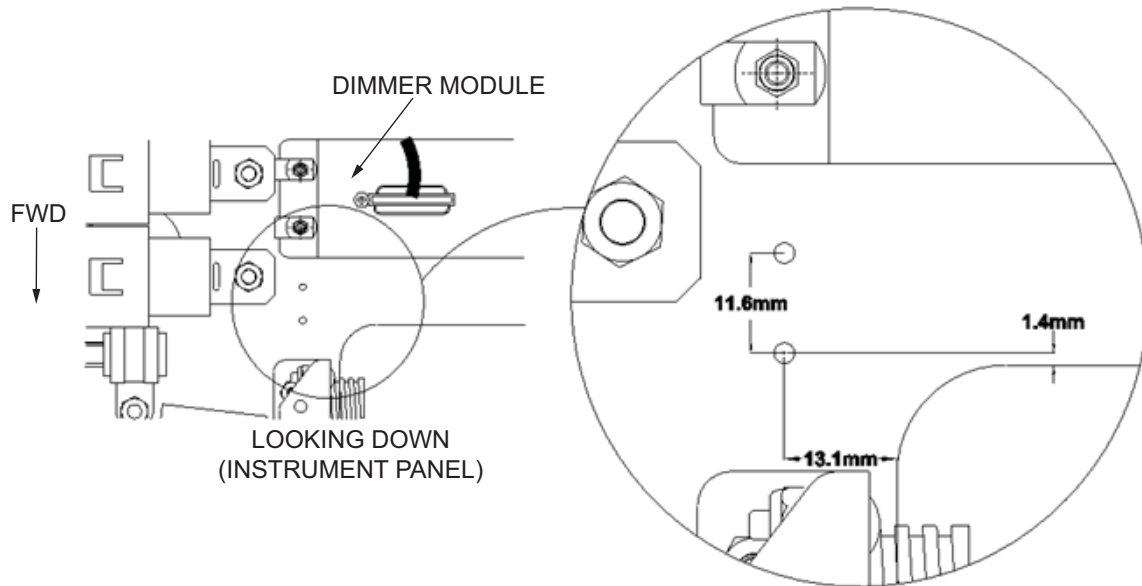

Figure 8
- 10.9 Drill two 2.4 mm diameter holes on the instrument panel bottom shelf. Refer to Figure 8.